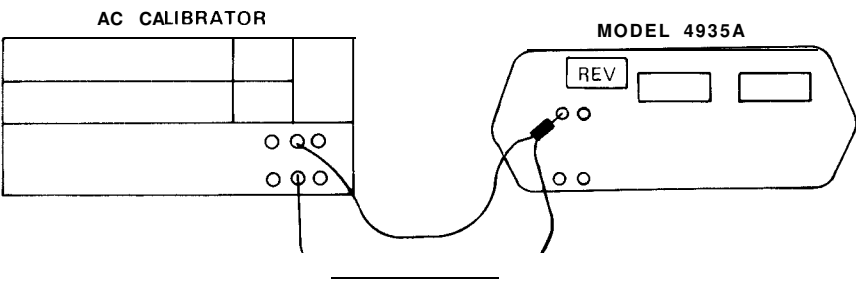

Figure 4-4. Autorange Test
1. Connect the AC Calibrator to the 4935A RCV jack as shown in Figure 4-4.
- Connect equipment as shown in Figure 4-4. On 4935A select: